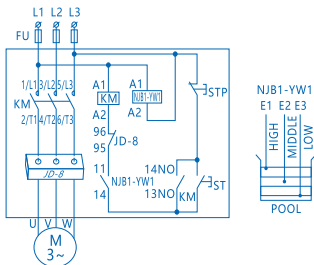
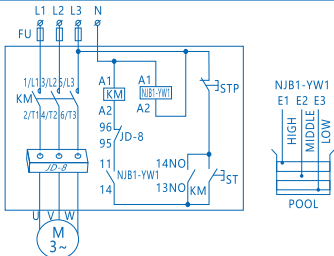
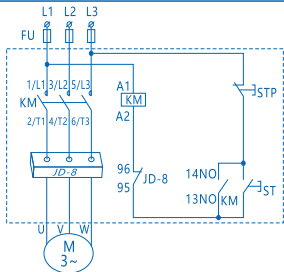
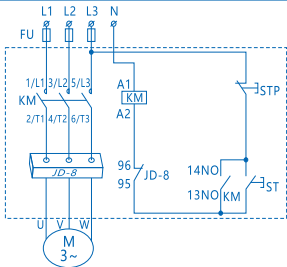

Figure 2 Wiring Diagram of NJBK5-10 Controller when the Control Circuit and Main Circuit Voltages are both AC380V
Figure 3 Wiring Diagram of NJBK5-10 Controller when the Control Circuit Voltage is 380V and the Control Circuit Voltage is 220V
Figure 4 Wiring Diagram of NJBK5-10D Controller when the Control Circuit and Main Circuit Voltages are both AC380V
Figure 5 Wiring Diagram of NJBK5-10D Controller when the Control Circuit Voltage is 380V and the Control Circuit Voltage is 220V
3.2 Wiring diagram of NJBK5-10 controller: see Figure 2 and Figure 3; wiring diagram of NJBK5-10D: see Figure 4 and Figure 5.
- b) When the controller is delivered, the wires of the control circuit have been connected. The user only needs to connect the incoming and outgoing lines of the dashed part of the main circuit according to the wiring diagram. Three detection electrodes E1, E2 and E3 of the liquid level relay in the controller should be installed in the controlled water pool according to the high, medium and low positions by the user, and the end part should have a good conductivity (see Figure 2~ Figure 5 for the wiring diagram of the controller or see the wiring diagram on the inner wall of the controller' s enclosure).